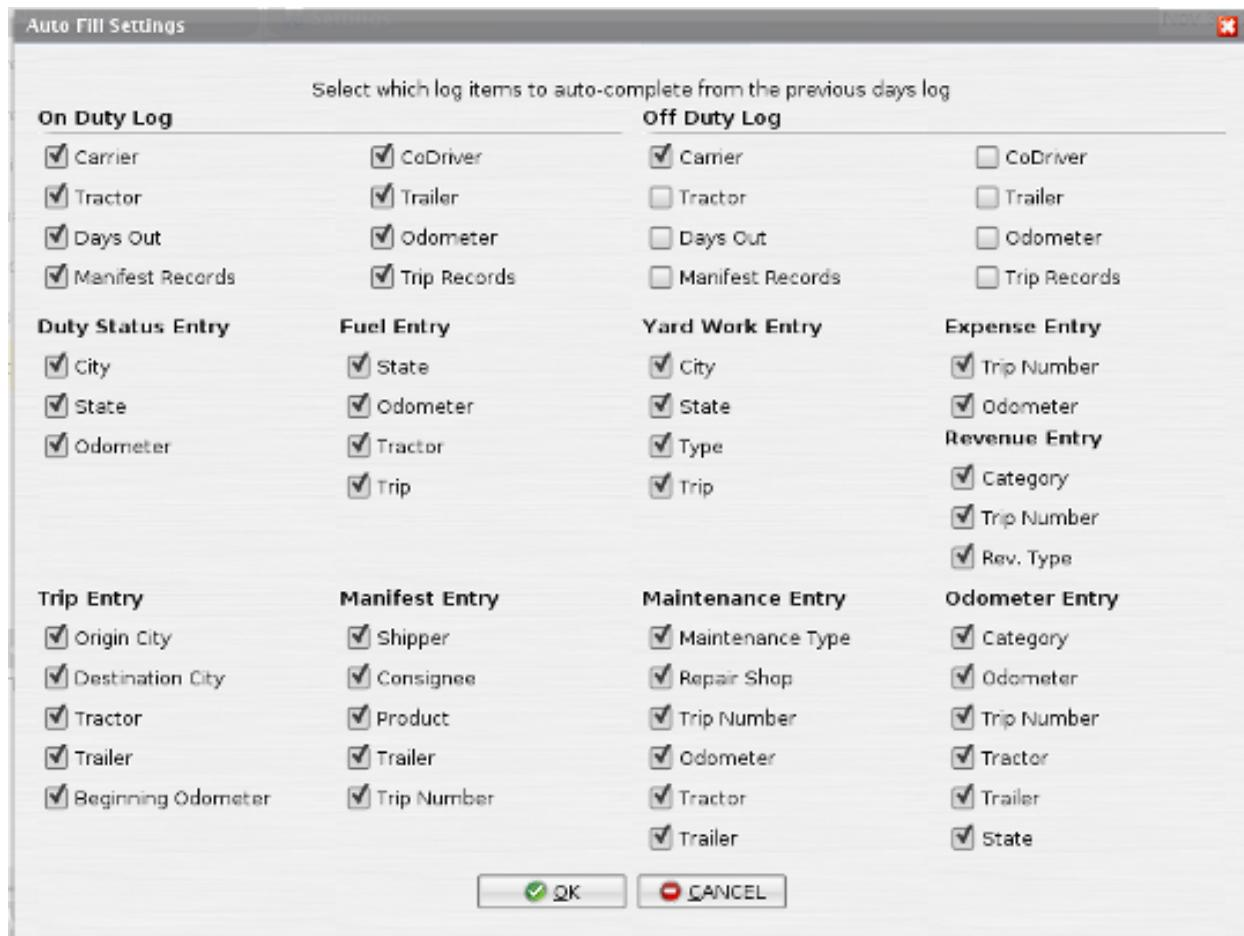

Figure 5.46. Auto-Fill Dialog
2. Under the "Auto Complete Settings" make sure the "Enable Auto-Fill of Log Entries" checkbox is checked, then click the Configure button beside the checkbox label and wait for the "Auto Fill Dialog" to appear see Figure 5.46, "Auto-Fill Dialog".